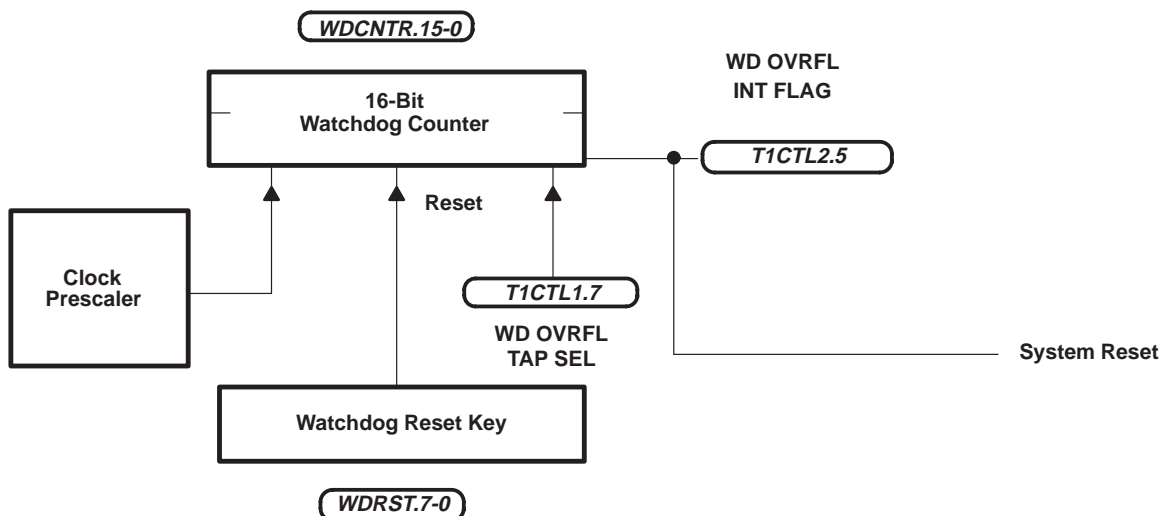

Figure 9. Hard Watchdog
- Hard watchdog configuration (see Figure 9) – for mask-ROM devices: